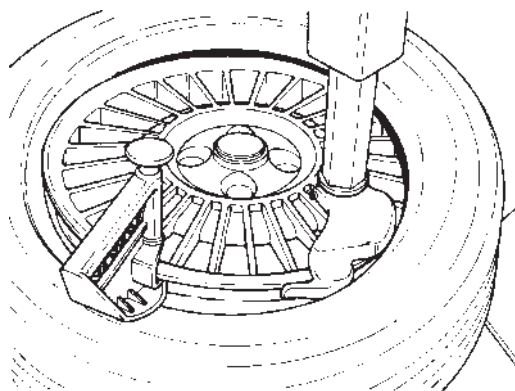

Fig. 22
C. Mount the upper bead following the same directions in section B. With low profile tires the Bead Holding Clamp (option EAA0247C70A Fig. 22) can help to prevent the top bead from prematurely seating during the mounting cycle.
D. Position the bead clamp to hold the tire bead into the rim drop centre (Fig. 22).